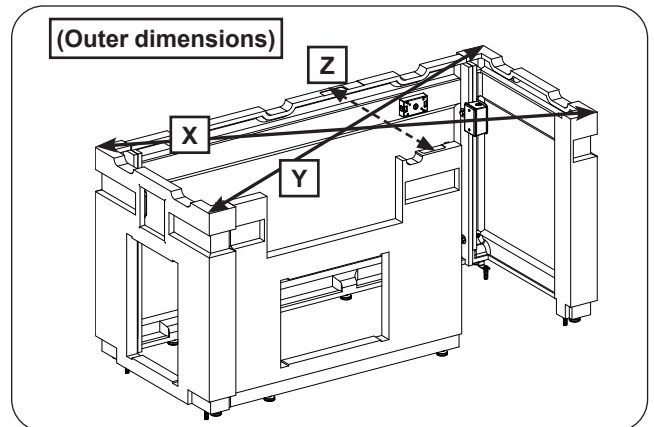

Fig. 9-2 Square unit (then tighten all bolts)
- a. Measure the X outer dimension, see Fig. 9-2. It should be approximately $79 \frac{3}{4}$ ".
- b. Measure the Y outer dimension, see Fig. 9-2. Carefully adjust the side walls as needed to ensure the X & Y dimensions are equal. (The final dimension may slightly vary from that mentioned in step a.)
- c. Measure the Z outer dimension, see Fig. 9-2. It should be approximately $30 \frac{1}{2}$ ".